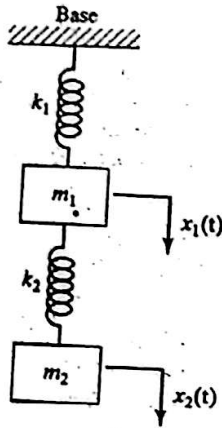

FIGURE 5.16
- 5.1 Find the natural frequencies of the system shown in Fig. 5.16, with  $m_1 = m$ ,  $m_2 = 2m$ ,  $k_1 = k$ , and  $k_2 = 2k$ . Determine the response of the system when  $k = 1000$  N/m,  $m = 20$  kg, and the initial values of the displacements of the masses  $m_1$  and  $m_2$  are 1 and -1, respectively.
5.21 Determine the initial conditions of the system shown in Fig. 5.16 for which the system vibrates only at its lowest natural frequency for the following data:  $k_1 = k$ ,  $k_2 = 2k$ ,  $m_1 = m$ ,  $m_2 = 2m$ .
5.22 The system shown in Fig. 5.16 is initially disturbed by holding the mass  $m_1$  stationary and giving the mass  $m_2$  a downward displacement of 0.1 m. Discuss the nature of the resulting motion of the system.